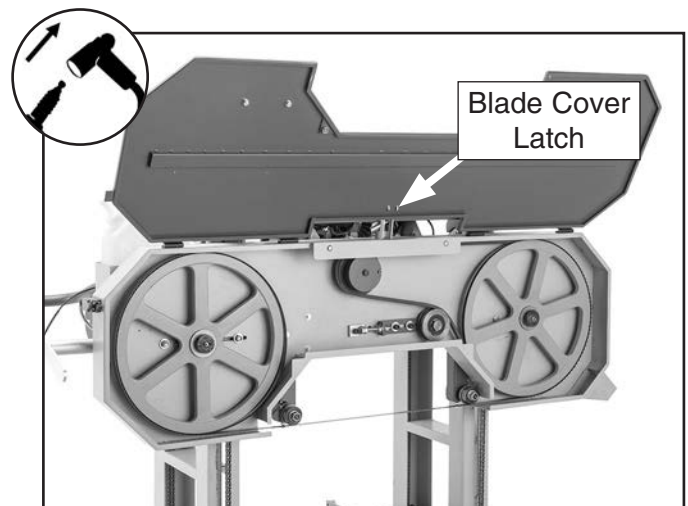

Figure 27. Location of blade cover latch.
2. Open blade cover and support it on blade cover latch (see **Figure 27**).